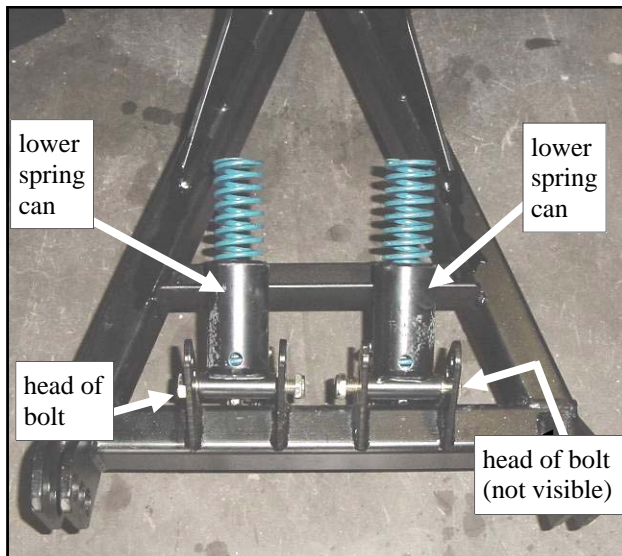

Fig. 3.1 (view of lower spring can assemblies)
3.1 Per fig. 3.1, install the two lower spring cans to the A-Frame tabs as shown. The lower spring cans are the smaller tubes with the drainage holes in the side. Using the following hardware, mount them to the lowest set of holes on the A-Frame tabs as shown: two 5/8-11 x 4-1/2" long hex head bolts and two 5/8-11 locknuts. Bolt heads to be outboard as shown. Snug up the bolts, do not tighten fully.
3.2 Per fig. 3.1, install the two, large springs (2" O.D. x 8" long) in the two lower spring cans as shown.